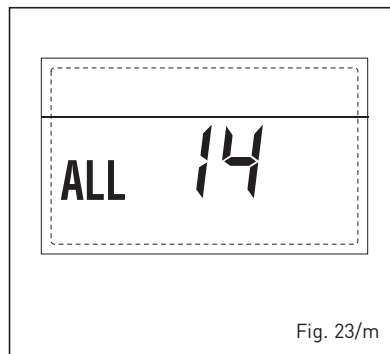

Fig. 23/m
**- "ALL 15" FAN ERROR (fig. 23/n)**